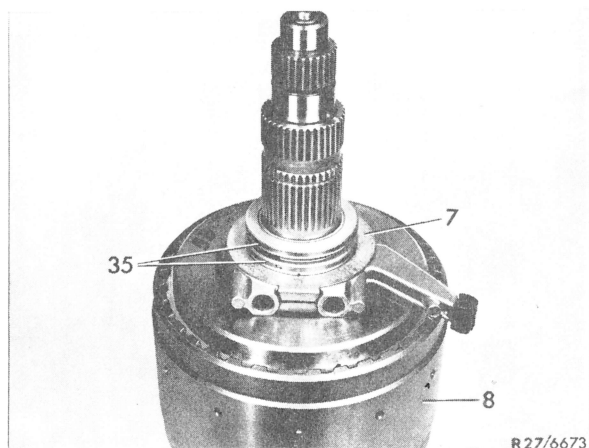

Fig. 19
31 Insert oil feeding sleeve (7) into supporting flange K 2 (8), while completely pushing down so that both oil sealing rings will enter the supporting flange K 2 (Fig. 19).